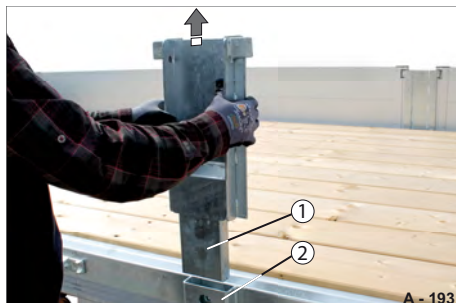

Fig. 123 Removing the middle post
- Pull the middle post (Fig. 123/1) out of the post pocket (Fig. 123/2).